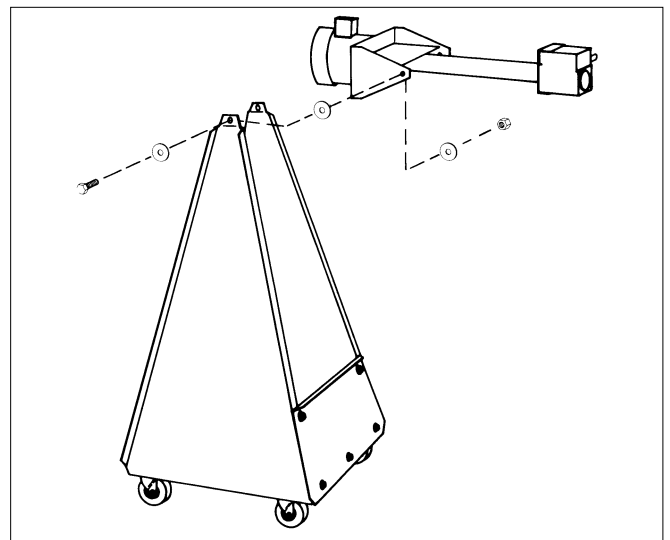

Figure 24
1. Center the motor/gearbox assembly between the uprights of the floor stand. Align the holes in the motor bracket with the holes in the uprights. From the outside, insert a bolt and washer through the holes. Add a washer between the upright and motor/gearbox unit, then slide a washer and locknut over the bolt on the inside of the floor stand. Repeat on the opposite side, Fig. 24.